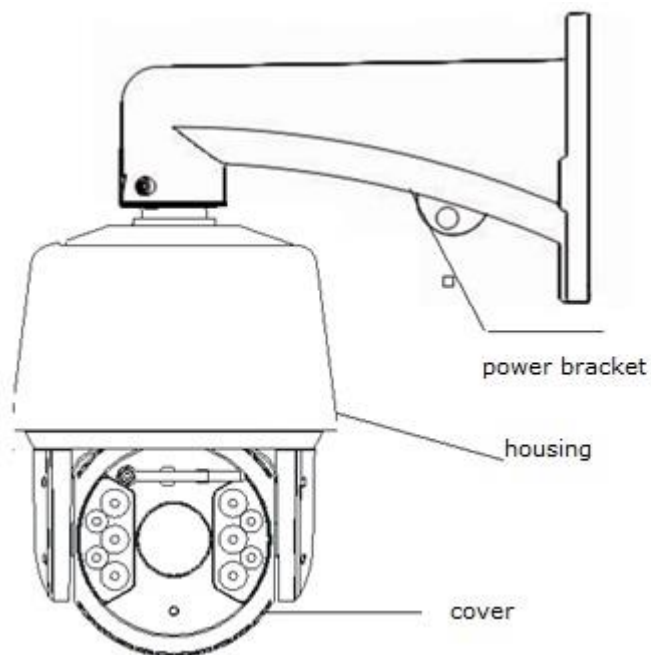

Figure 1
Remove the wall mounting bracket and speed dome, and lead the cable through the bracket and set aside to the right position. Aligned the screw holes of speed dome to that of bracket, and use M6 screws to fix. (as Figure 1)
- 2) Outdoor installation shall be completely sealed moisture; leads cable should closely along the bracket wiring as Figure 1.